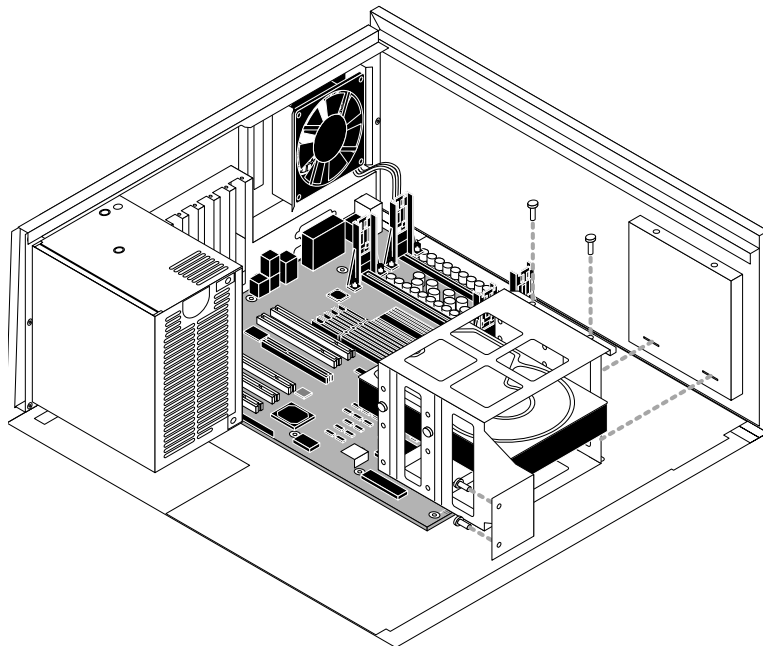

FIGURE 4-27 Removing the HDD and bracket
4. Remove three of the four screws that secure the HDD bracket to the tray (see Figure 4-27.)
4. Insert the hooks on the HDD bracket into the slots on the bottom of the tray and slide the bracket toward the front panel to secure it. (See Figure 4-27.)